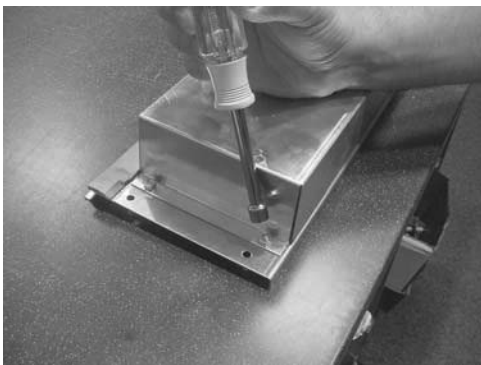

Figure 3-36
3. Using 5/16" socket, remove the 4 nuts securing the control cover and remove cover. Figure 3-36.